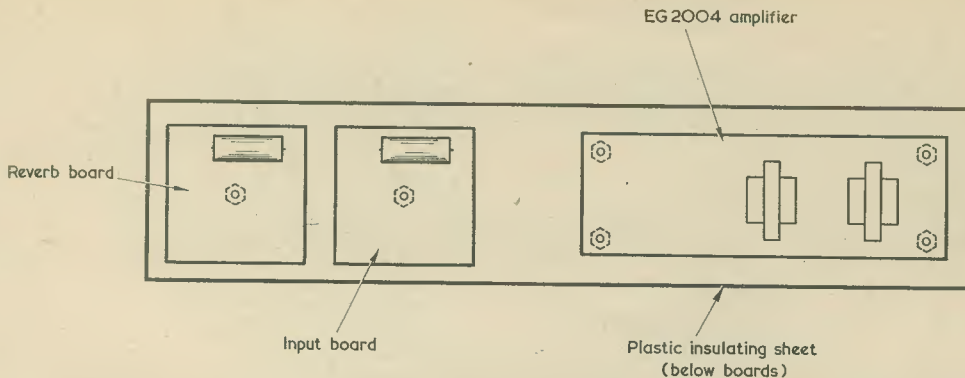

Fig. 6. The plastic insulating sheet is positioned under the boards in the manner shown here
12. Place the white plastic sheet over the rear surface of the sloping panel where the printed circuit boards will later be mounted (see Fig. 6). This sheet provides insulation from the panel surface. Make holes in the sheet with any sharp instrument to enable mounting screws to pass through. Note, at this stage, that "spikey" solder joints or projecting wire ends on the undersides of the printed circuit boards need to be rounded over to obviate the risk of their piercing the plastic sheet.